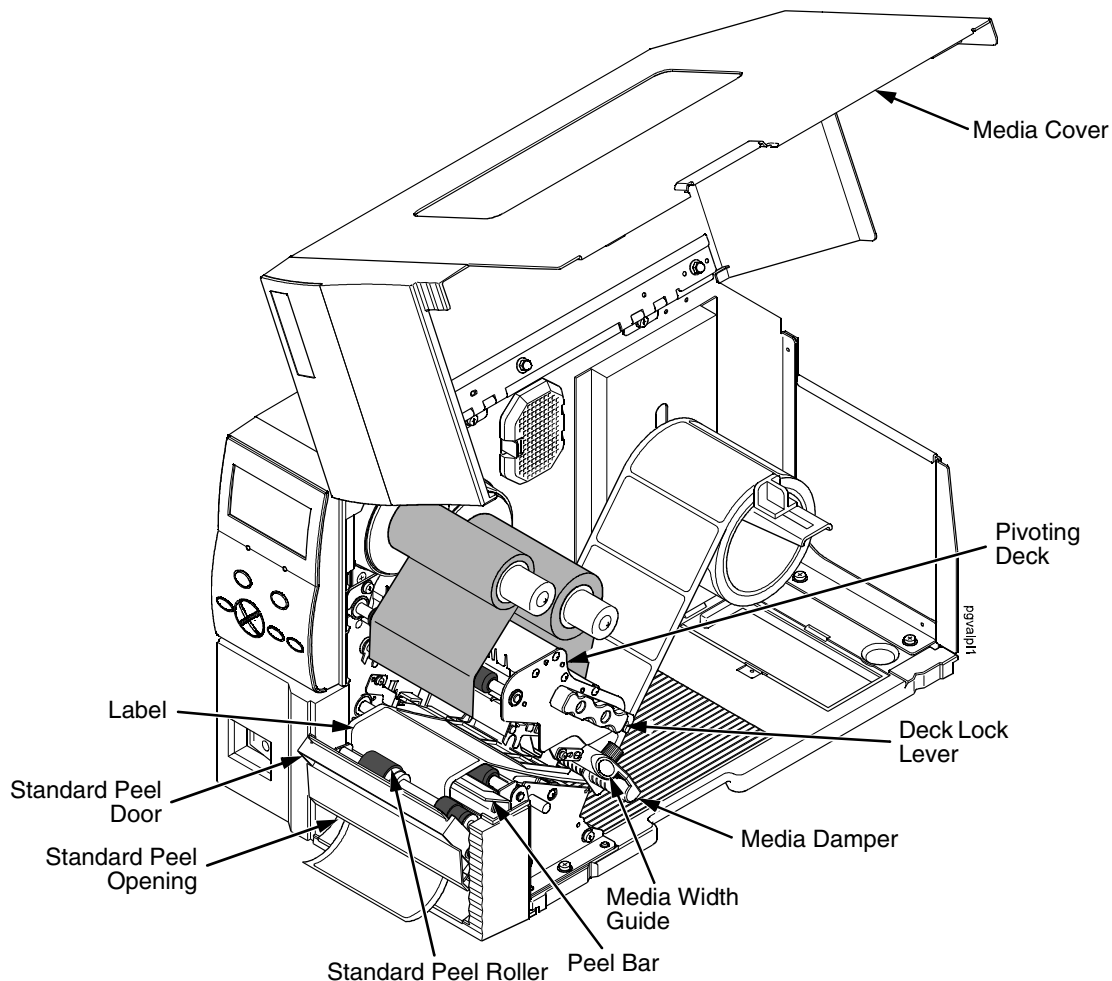

Figure 10. Loading the Printer for Standard Peel Operation
3. Thread the media over the peel bar, behind the standard peel roller, and through the standard peel opening (see Figure 10 on page 239).
5. Peel the label (located over the tear bar) off the liner (refer to Figure 10 on page 239). This will prevent the labels from sticking to the tear bar during the initial print feed.